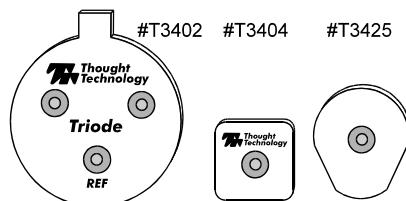
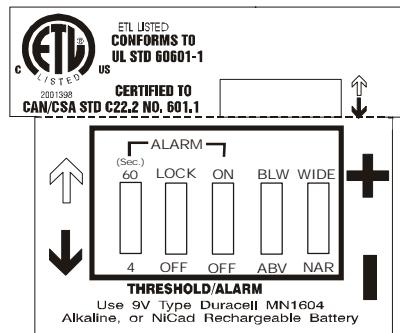

Fig. 2 Triode, single and Uni-Gel electrodes
Fig. 7 Battery Compartment Controls
Plug the MyoScan sensor into the **INPUT** jack. Set the switches inside the battery compartment to: **OFF, OFF, ABV, NAR** (fig. 7). Set the gain switch to the **x1** position. Turn the volume up. Set the threshold potentiometer to **10**. (fig. 6). Snap a Triode electrode on the three MyoScan connectors (fig. 2). Hold the MyoScan sensor on your cheek with a light pressure, placing it just below the cheekbone (over the temporomandibular joint). Make certain that all three electrodes contact the skin. Observe the tone and bargraph reading as you tense and relax your jaw by clenching your teeth. *When the first yellow LED lights up, the actual EMG reading corresponds to the threshold value that is set on the **THR.** Dial, in this case,  $10\mu\text{V}$ .*
**Disposable Triode Electrodes (#T3402M):** Disposable electrodes avoid cross contamination of patients. The foam-backed triangular Ag-AgCl (silver-silver chloride) Triode electrodes can be used for scanning most muscle sites for activity. Remove the back covering exposing the adhesive to firmly hold the MyoScan sensor in place (see figure 2). Generally, no skin surface preparation is required; however, for guaranteed stability over very dry or hairy areas, clean the target site with an alcohol wipe or apply a tiny dab of electrode gel to each electrode. Be careful to avoid applying the electrode gel to the skin between electrodes, which could attenuate the signals.
When an extender cable is used, Disposable Single Electrodes (#T3404) or Disposable Uni-Gel Electrodes (#T3425) are snapped in the three electrode buttons (see figure 2 & 3).
Within the battery compartment are switches to set a variety of choices as follows: (see figure 7)